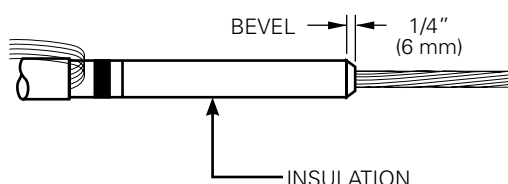

Figure 6. Line illustration of insulation bevel.
- Remove sharp edge of insulation by beveling at 45° angle for approximately 1/4" (6 mm). (See Figure 6.)